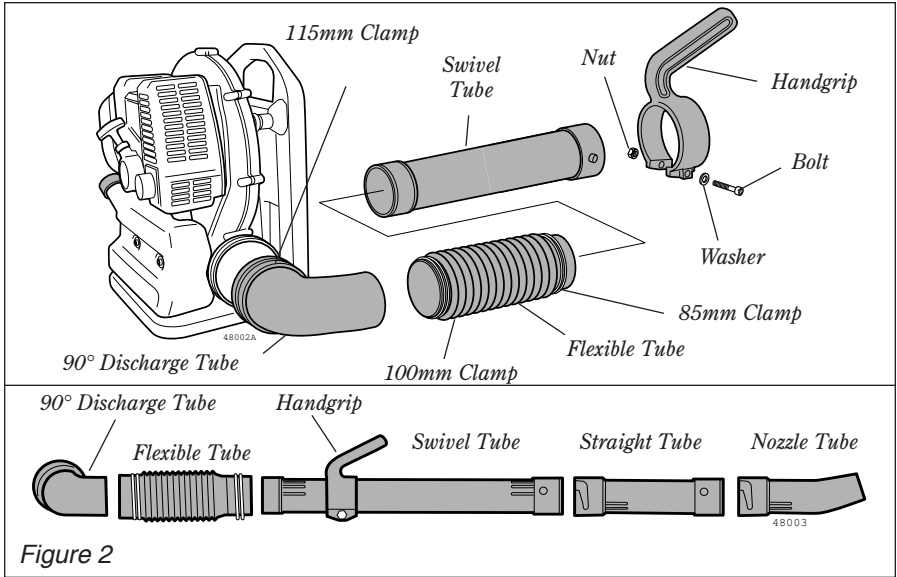

Figure 2
- Three Tube Clamps (115 mm, 100 mm, 85 mm) See figure 2.